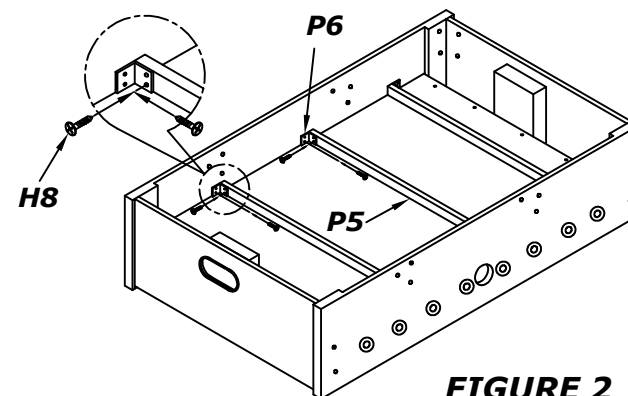

FIGURE 2
3. PLACE THE PLAYFIELD SUPPORT BRACES ON THE BOTTOM OF THE PLAYFIELD. ATTATCH THE BRACES USING BRACKETS **P6** AND SCREWS **H8**. AS SHOWN IN **figure 2**.